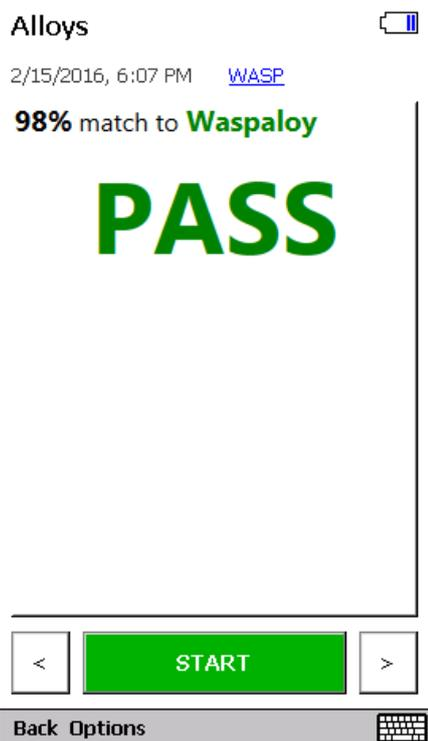

Figure 3. Testing screen of “Pass/Fail” mode.
- Pass/Fail. It is a useful mode for grading a specific alloy ID. Displaying "Pass" message when measured alloy fully complies alloy grade what you want, and "Fail" in other case. See figure 3.